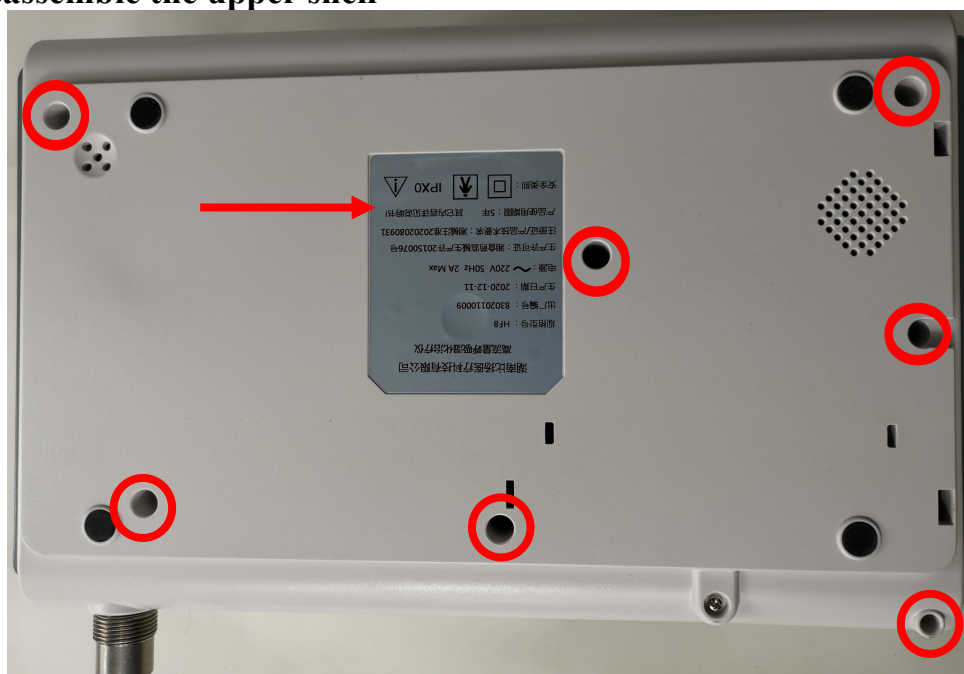

Figure3-2-1
① Use a Phillips screwdriver to remove the 7 screws at the bottom of the machine. The red circle in Figure 3-2-1 is the screw location.